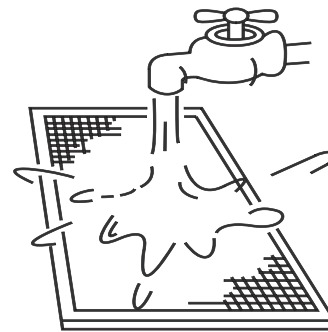

Fig.4-7
- ② Take out the air-in grill.
- ③ Dismantle the air filter
- ④ Clean the air filter (Vacuum cleaner or pure water may be used to clean the air filter. If the dust accumulation is too heavy , please use soft brush and mild detergent to clean it and dry out in cool place).
- ⑤ The air-in side should face down when using water. (See Fig.4-7)